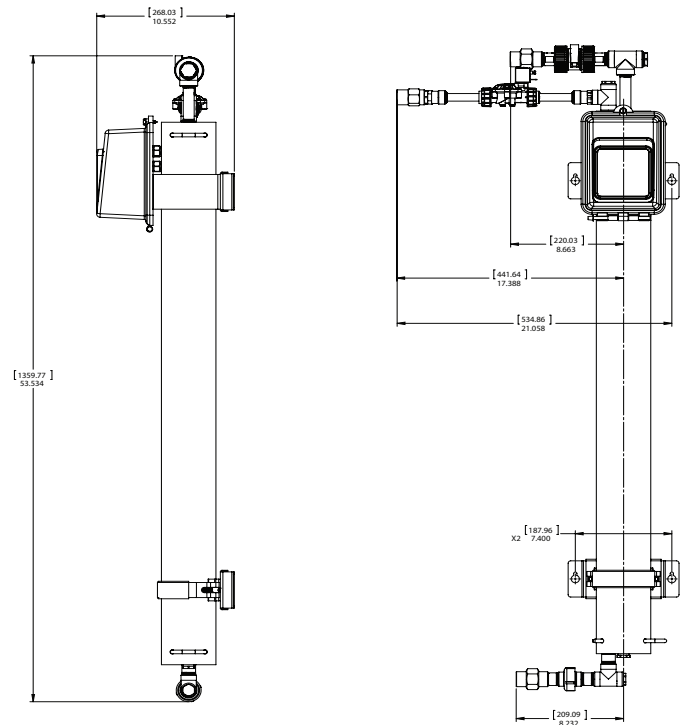

Figure 1 Dimensional Drawing for the FreshPoint™ Ultrafiltration System
- The FreshPoint system's footprint is 12" x 12" (30 x 30 cm), exclusive of plumbing connections. The FreshPoint™ system requires 85" (2.1 m) of vertical room to allow for removal of the membrane, unless plumbing accommodations are made (e.g.: unions). See Figure 1 for a typical installation with dimensions.